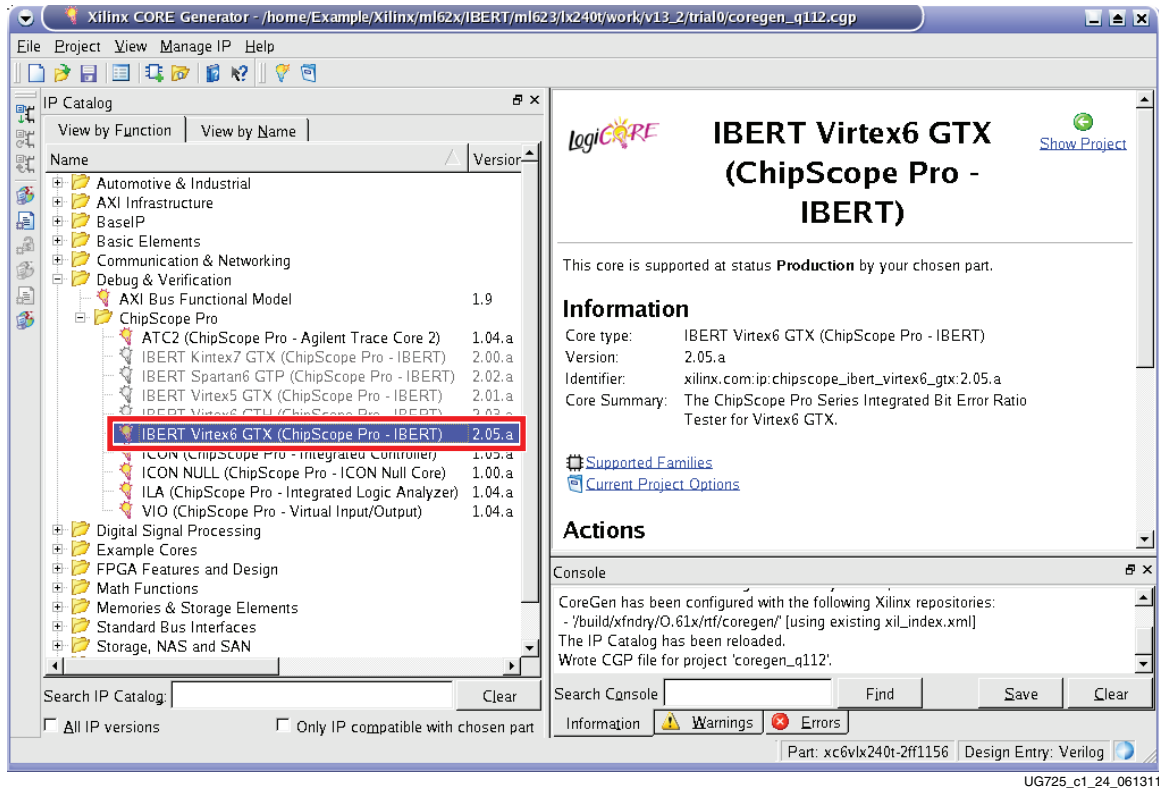

Figure 1-24: Select IP Core
- Double-click the selected core as shown in Figure 1-24.